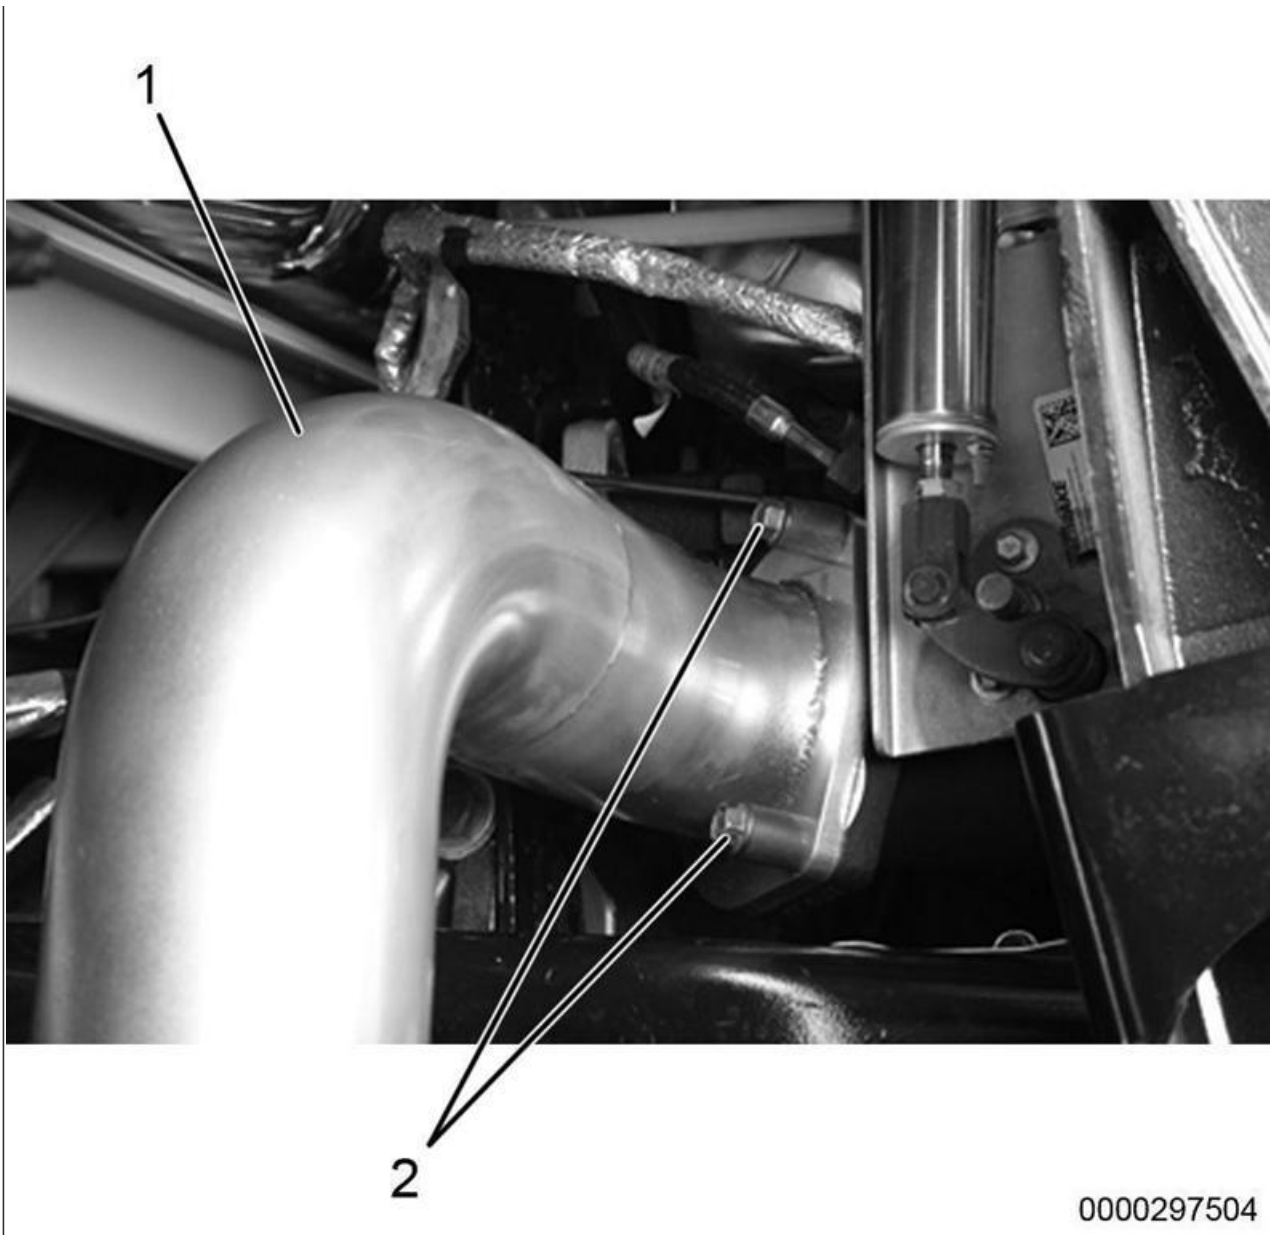

Figure 10: Exhaust Redirect Pipe
26. Using previously removed bolts (Figure 7, Item 2), spacers, and gasket, install exhaust redirect pipe (Figure 10, Item 1). Using torque wrench, tighten bolts to 27 lb-ft (36 N•m).